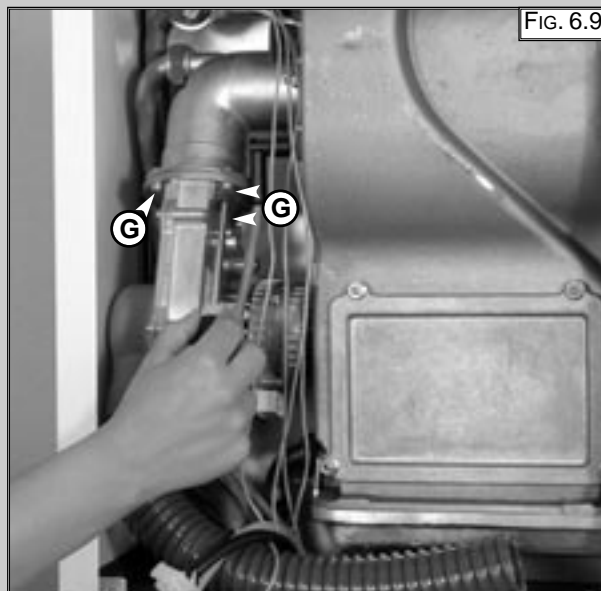

FIG. 6.9
3. Unscrew the three screws "G" (FIG. 6.9);